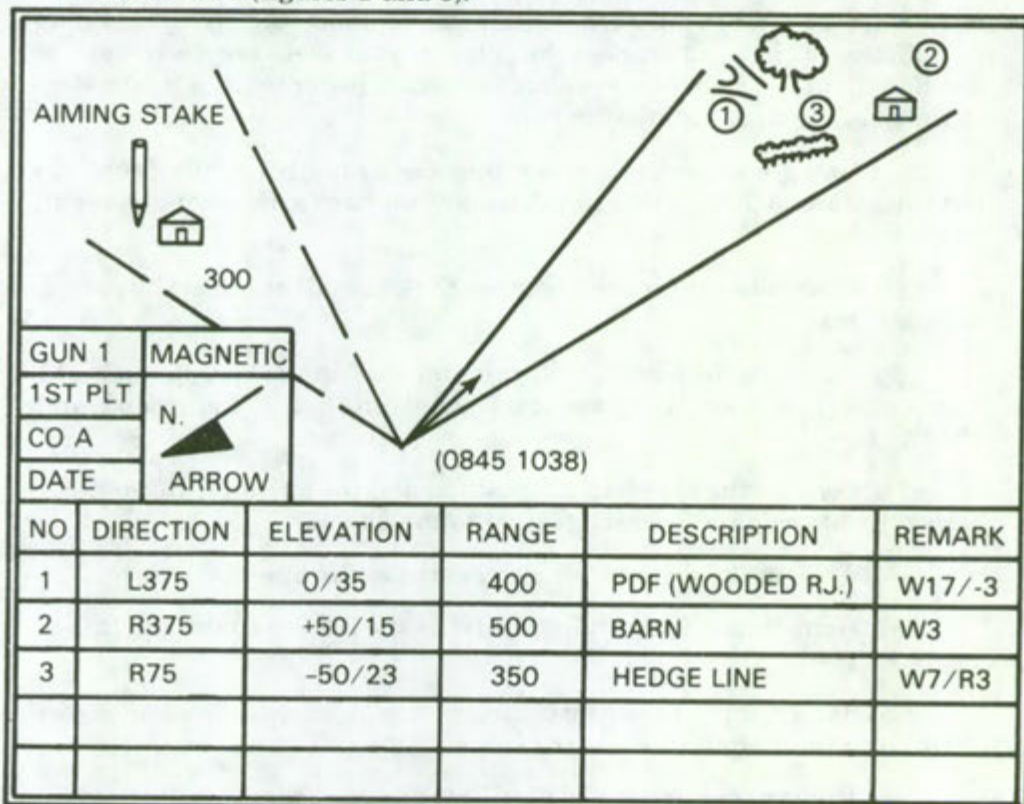
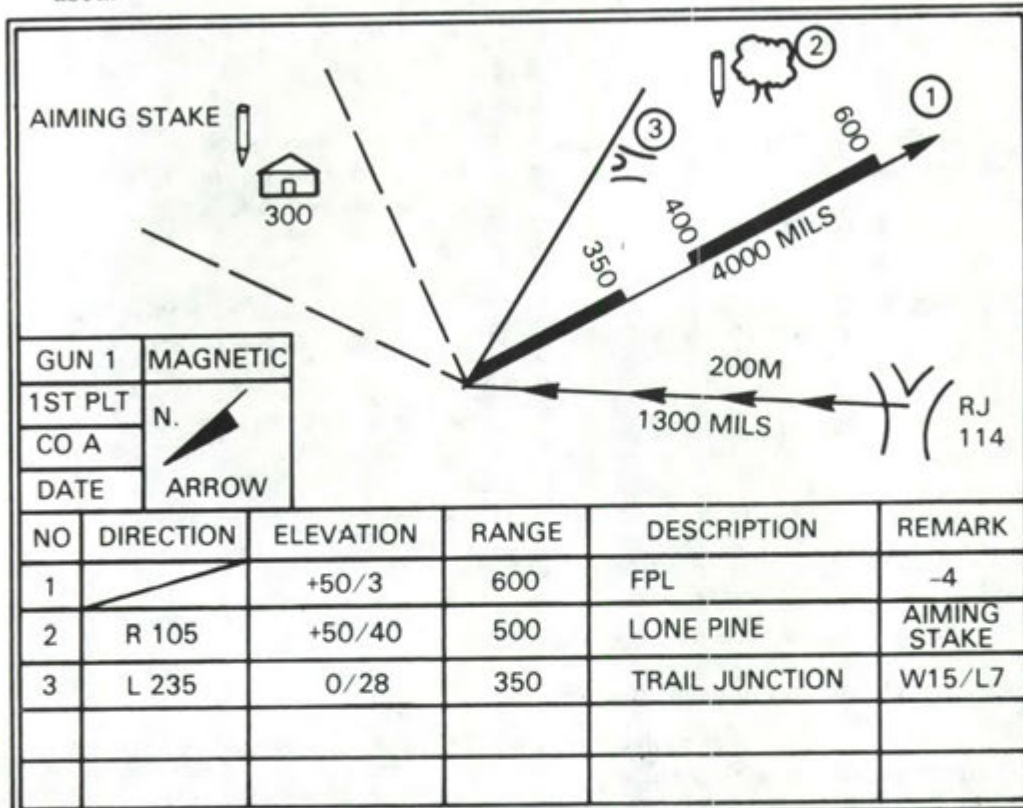

Figure 2. Range card with principal direction of fire.
Figure 3. Range card with final protective line.
e. Specify the location of the gun position in relation to a prominent terrain feature. When no such feature exists, place the eight-digit map coordinates of the position near the point on your sketch representing the position (figure 2). If there is a prominent terrain feature within 1000 meters of the gun, use that feature (figure 3):
(1) Using the compass, determine the azimuth in mils **from** the terrain feature **to** the gun position. (Compute the back azimuth from the gun to the feature.)
(2) Determine the distance between the gun and the feature by pacing or from a map.
(3) Sketch in the terrain feature on the card in the lower left or right hand corner (whichever is closest to its actual direction on the ground) and identify it.
(4) Connect the sketch of the position and the terrain feature with a barbed line extending from the feature to the gun.
(5) Write in the distance in meters (above the line).
(6) Write in the azimuth in mils **from** the feature **to** the gun (below the line).
(1) Primary sector with PDF (figure 2).
(2) Primary sector with an FPL (figure 3).
g. Label targets in primary sector in order of priority. FPL or PDF will be labeled as 1 (figures 2 and 3).
a. On the reverse side of card (or below sketch if there is room), draw a data section block (figures 2 and 3) if not a preprinted card.
- (1) Center traversing handwheel.
- (2) Lay gun for direction.